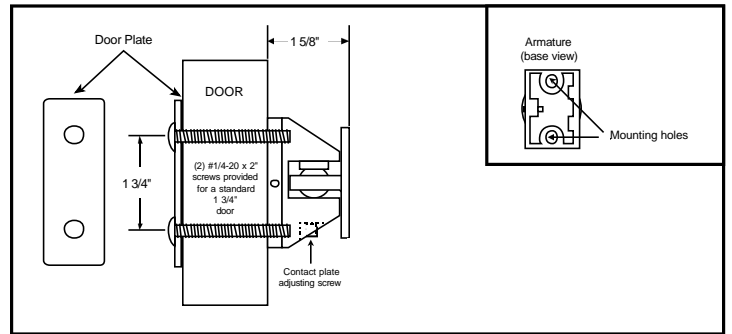

Figure 5. Thru-Bolt Mounting
- Using a 5/32" Allen wrench, turn the contact plate adjusting screw (Figures 5 and 6) counterclockwise to loosen the contact plate.
- Thru-bolt mounting (Figure 5).** Center punch the two holes (at the points marked in step 3) and drill 5/16" diameter through the door. Distance between the center points should equal 1-3/4".
Secure the armature assembly, with the contact plate adjusting screw facing down, to the door as shown in Figure 5 or 6, using (2) 1/4-20 x 2" screws (supplied).